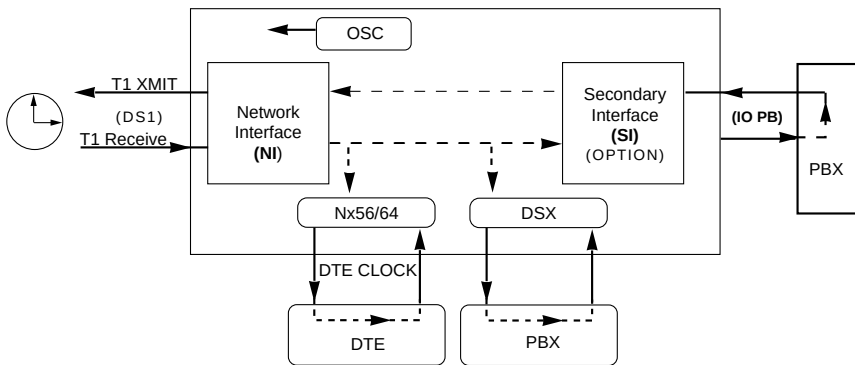

Figure 1-8
The typical timing option arrangement is shown in Figure 1-8. The PBX is looped timed sending data to the TSU 120 which is actually synchronous to the received data. The Network Interface (NI) is the actual source of all timings. This timing option is the same as that typically used for CSUs. This is the preferred mode for use with a PBX application.